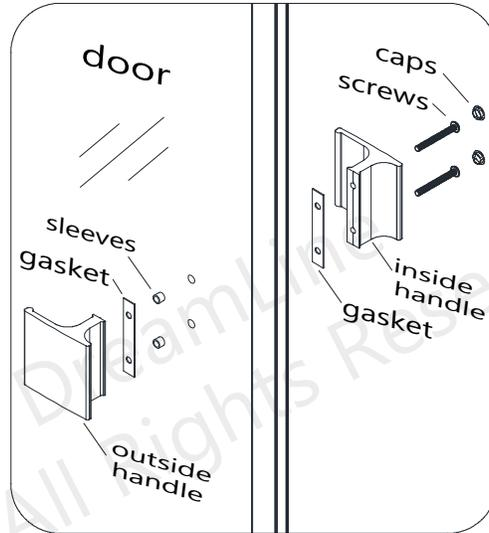

Fig 13
13. Install the **Handle (#11)** onto the **Door Glass (#06)** using the provided **M6 x 45 pan head** screws. Use one gasket per side to prevent glass to metal contact. Cover the handle screws with the decorative caps. **(Fig 13)**